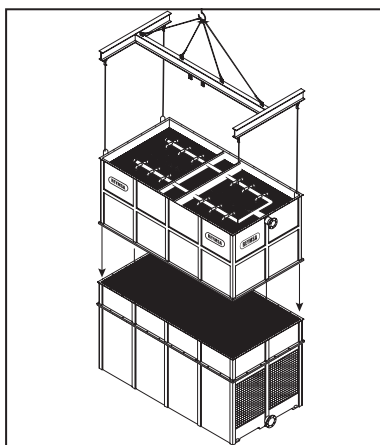

Figure A-78: Upper Body section installation for a modular tower (RTGM-D & RTGM-E)
- L. **Only for RTGM-D & RTGM-E models:** Place Upper Body section #1 on top of Lower Body section #1, making sure that the bolt holes are aligned (see Figure A-78). Bolt down and secure the horizontal flanges with the stainless steel nut and bolt sets supplied by REYMSA.